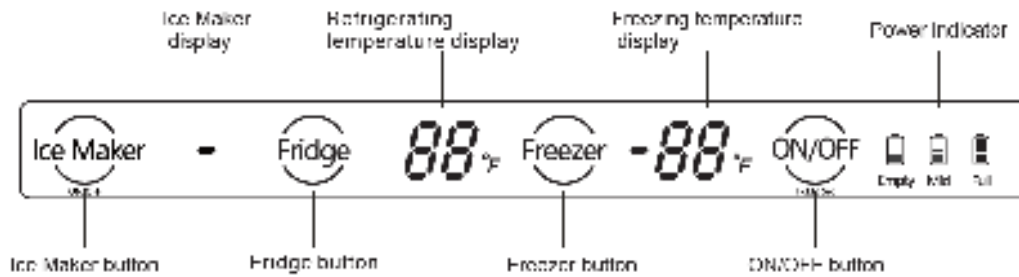

Fig. 8
- The below picture is a schematic diagram of the electronic display (Fig. 8).
- "Ice Maker" button (Fig. 8): Press the button to turn ON and OFF the Ice Maker.
- "Fridge" button (Fig. 8): To adjust setting the temperature of the refrigerating area, press the button.
- "Freeze" button (Fig. 8): To adjust setting the temperature of the freezing area, press the button.
- "ON/OFF" button (Fig. 8): press and hold the ON/OFF button for 3 seconds to enter shutdown or power on state.
- The LED display turns bright when the door is open. Push the "Fridge" button (Fig. 8). The buzzer will ring. Then the refrigerating area turns into the setting condition. The temperature patterns flash and the temperature of the refrigerating area will increase by 1°. The temperature will cycle between "33"-"45".
- The LED display turns bright when the door is open. Push the "Freezer" button (Fig. 8). The buzzer rings. Then the freezing room turns into the setting condition. The temperature patterns flash and the temperature of the freezing room will increase by 1. It will cycle from "5"-"8".